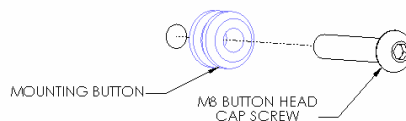
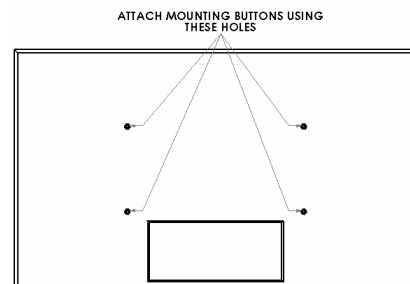

Figure 3
Figure 4
2. Attach mounting buttons to the display using four M8 x 45 cap screws provided (see Figure 3 & Figure 4).